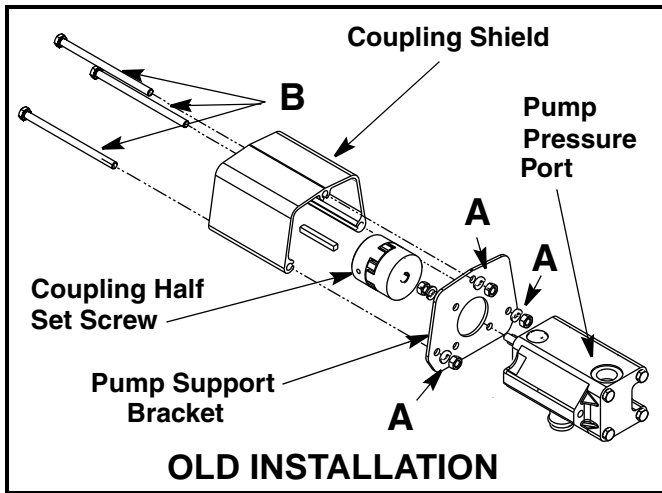

FIGURE 2
6. With the hydraulic oil reservoir tank empty, disconnect both hoses from the hydraulic pump. Drain the hoses into a suitable container and flush with kerosene. Remove and retain the pressure port adapter fitting from the old pump. See Figure 2.
Pump Removal: (Refer to Figure 2)